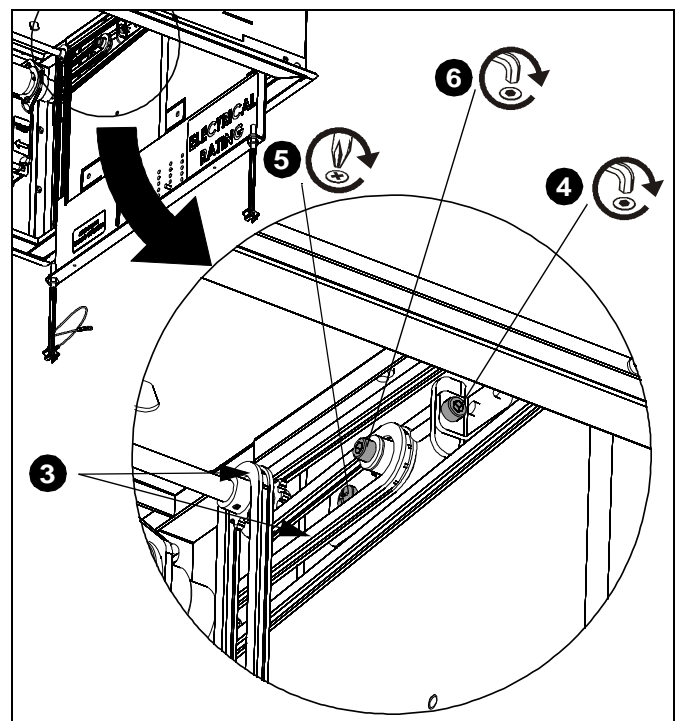

Figure 5
3. Ensure that chain is routed correctly. (See Figure 5)
5. Tighten one Phillips screw loosened in Step 5 of **Removing Motor** section. (See Figure 5)
6. Tighten remaining socket head cap screw loosened in Step 5 of **Removing Motor** section. (See Figure 5)